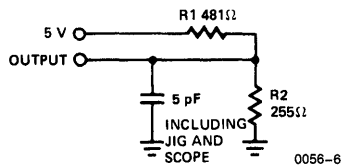

Figure 1b
7. tHZCE and tHZWE are specified with CL = 5 pF as in Figure 1b. Transition is measured ± 500 mV from steady state voltage.